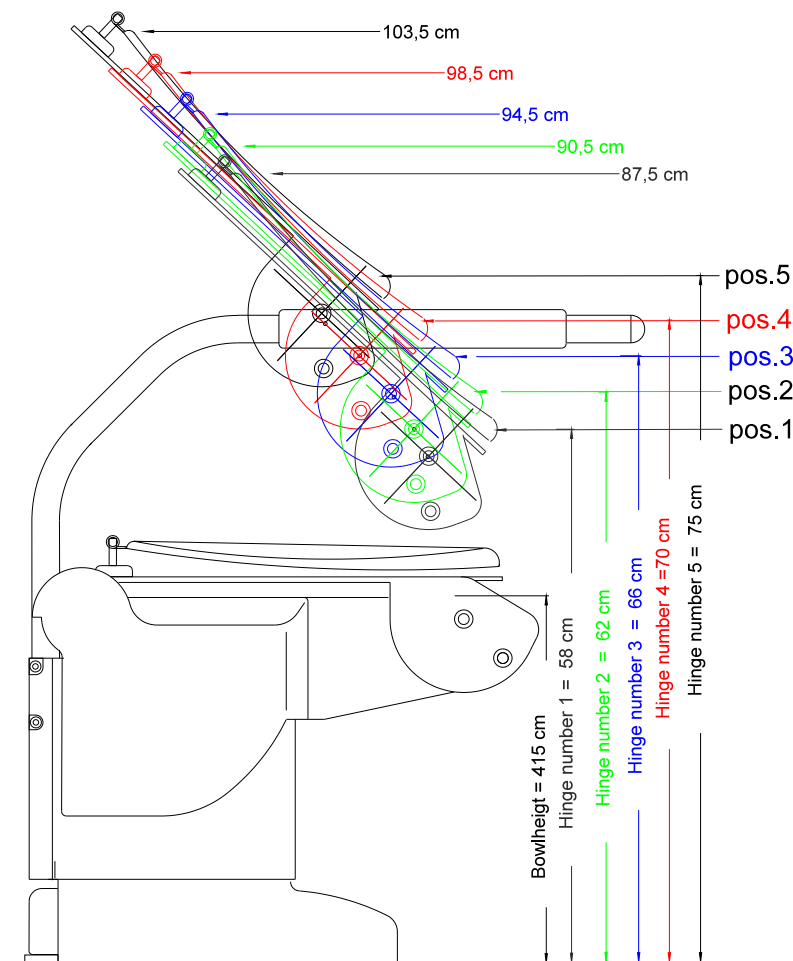

Fig. 4
- Fig.4 Here you can see the maximum seat frame heights when the bowl is 415 cm.